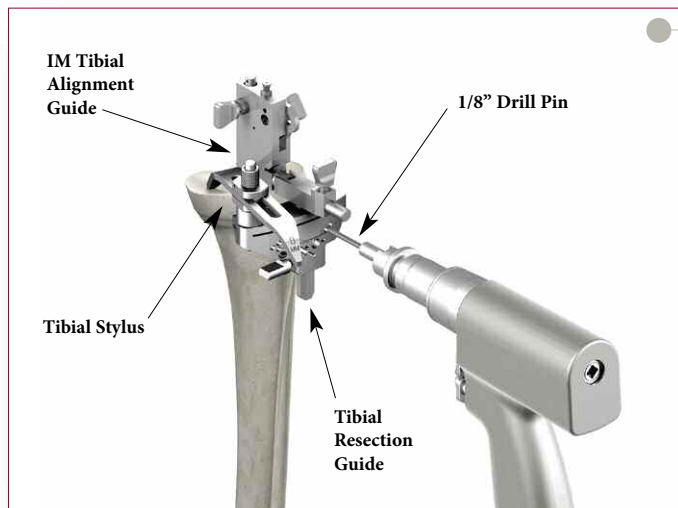

Figure 68
- Once the resection level is established, secure the Tibial Resection Guide to the anterior tibia using the 1/8" drill pins, drilling through the "0" holes. Pinning through the "X" Pin hole will further secure the Tibial Resection Guide to the tibia (Figure 68).